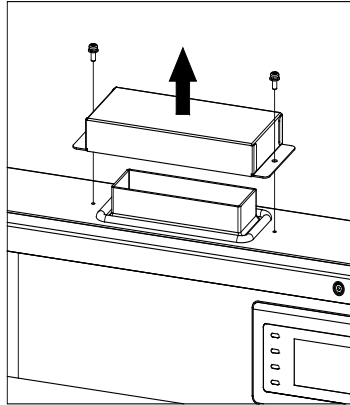

Figure 2.10 - Wiring Box Cover
- ② Remove the cover at the top of the wiring box (see Figure 2.10)